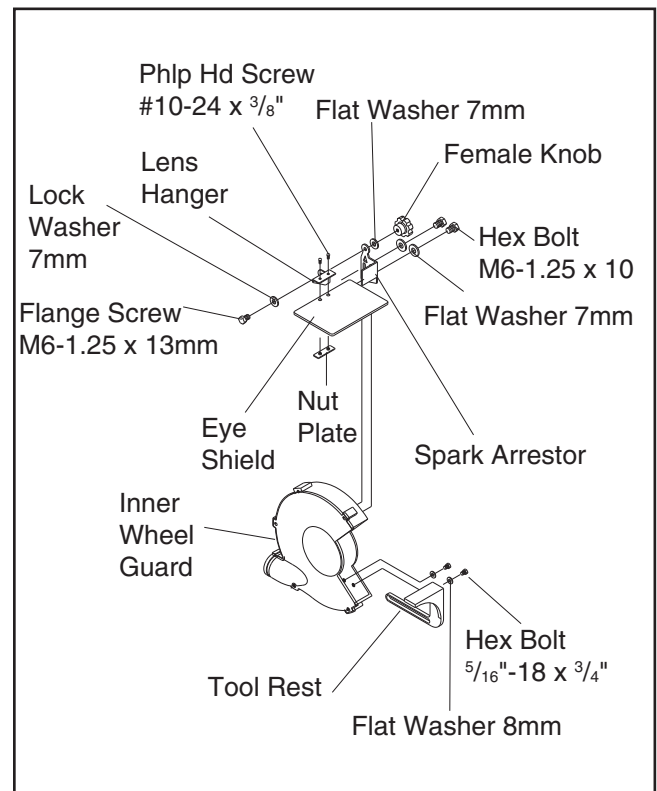

Figure 9. Left eye shield and tool rest assembly.
1. Using the hardware from the inventory list on **Page 12**, assemble the left tool rest and eye shield as shown in **Figures 9 & 10**.